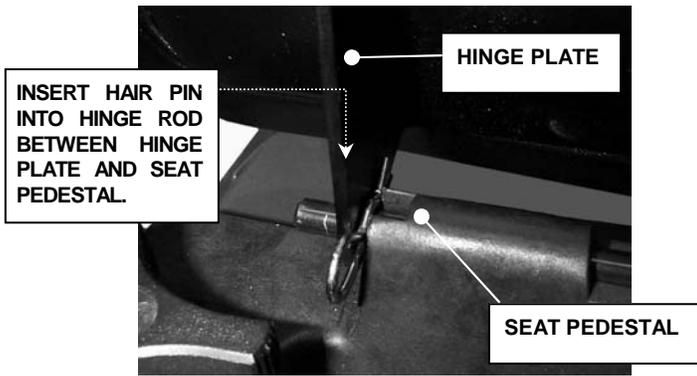

FIGURE 4
Some models are shipped with the seat, hinge rod and hair pin already installed. On those models verify all seat hardware is tight and that the hair pin is inserted fully into the hinge rod and is between the hinge plate and seat pedestal. See Figure 4. All models will require the installation of the two seat cushions.
4. Insert hair pin fully into hinge rod. The hair pin must be between the hinge plate and the seat pedestal. See Figure 4.